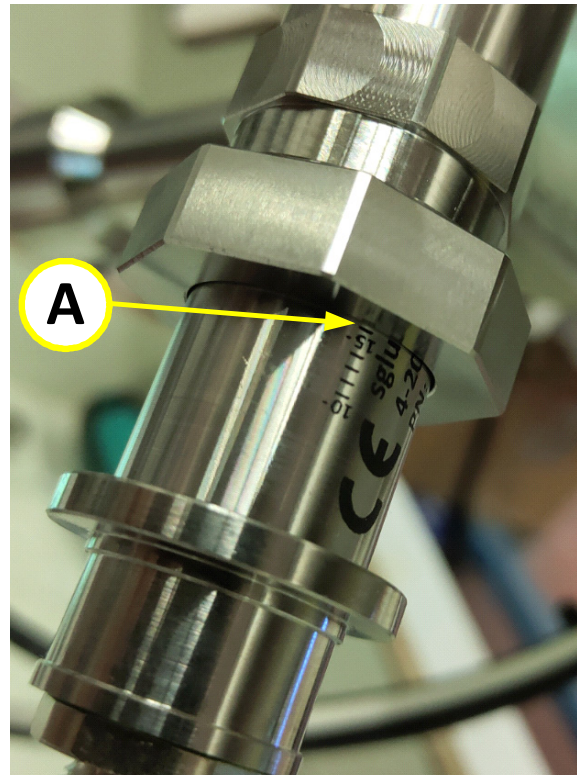

Figure 10-22: Using mm scale as position reference
- Step 1.** Before removing the UVIS sensor, look at the point where the millimeter scale on the sensor touches the securing nut (**A** in **Figure 10-22**).
- Step 8.** When you return the sensor to its place, make sure to insert it to the same reference point on the mm scale (**A** in **Figure 10-22**) recorded in **Step 1.** on page **10-142**.